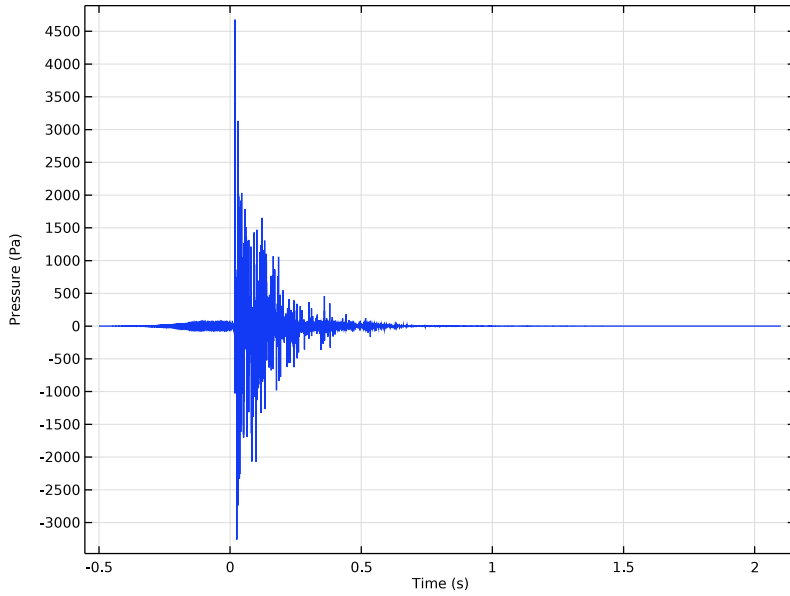

Figure 4: Room impulse response computed at the receiver location.
The temporal impulse response (IR) for the source and receiver configuration used in the model is depicted in Figure 4. The frequency domain (FFT) of the IR is depicted in Figure 5. The curve is smoothed with a 1/3-octave running average.